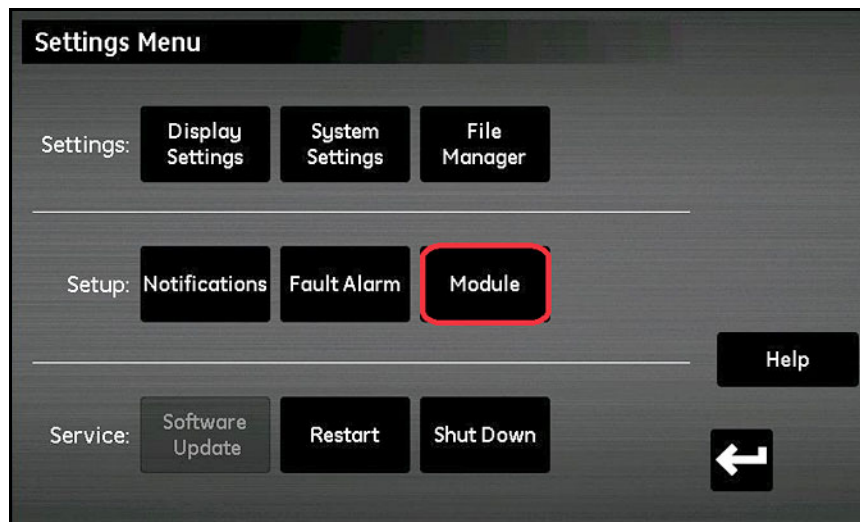

Figure 94: Module Update
4. In the **Setup** section, tap the **Module** button (see Figure 94 below).